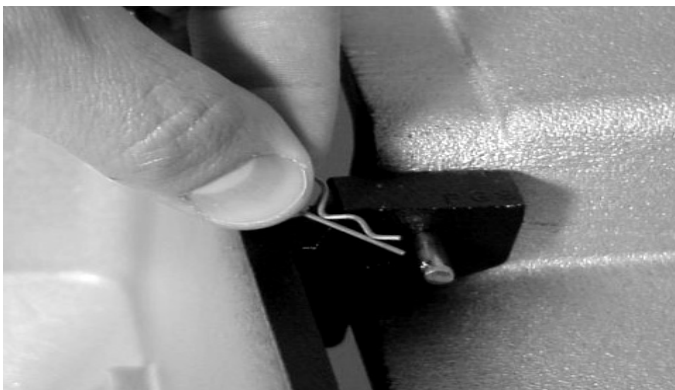

Figure 13 Hinge Pins/Cotter Pins
5. Place lid on lower casting. Insert hinge pins through top lid casting, then through pre-drilled hole in lower casting and attach cotter pins through hole in hinge pins to secure top to bottom casting (see Fig. 13).